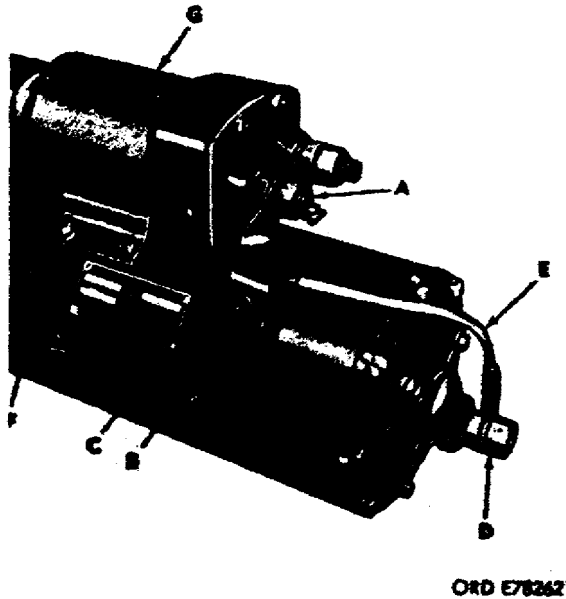

Figure 11. Removing or installing solenoid relay assembly.
(3) To remove the solenoid relay assembly the cable, straps, and mounting bolts are disassembled (fig 11).